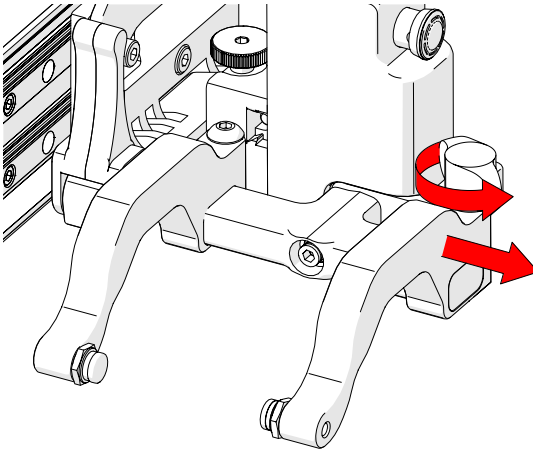

Fig. 113 - Remove outer arm
3. Loosen the probe holder adjustment knob and remove the outer probe holder arm (Fig. 113).